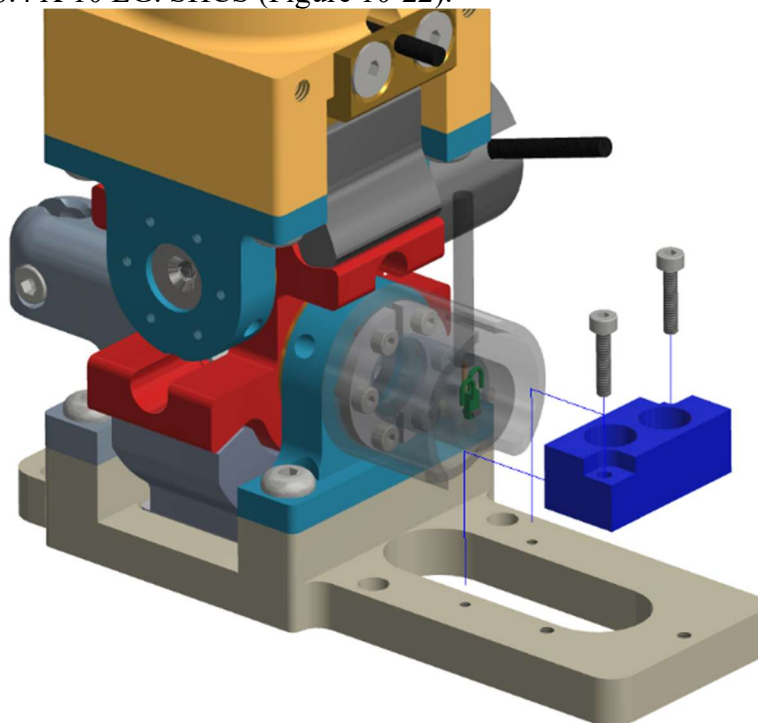

Figure 10-22. Remove foot tilt sensor
10.2.18 Remove the tilt sensor from the lower ankle plate (474-5806-1,2) by removing two M2 X 0.4 X 10 LG. SHCS (Figure 10-22).